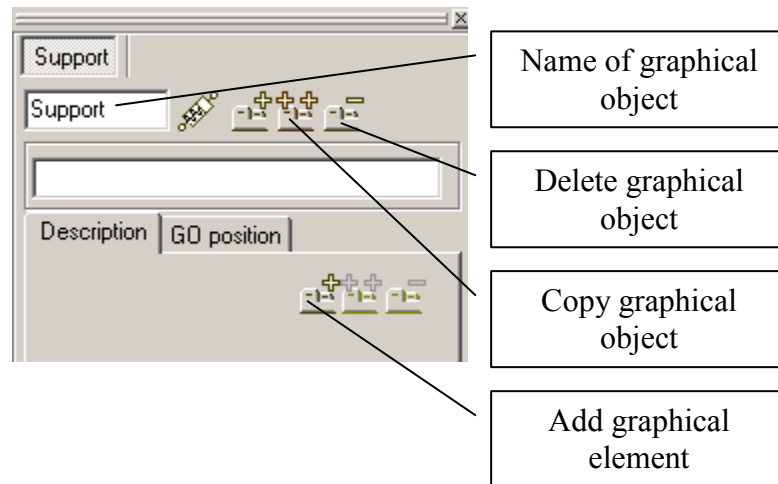

Figure 4. Renaming the graphical object
1. Point to the field with the name of the element and replace **GO1** with **Support**, see Figure 4.
1. Click **Add new graphical element** button, see Figure 4.